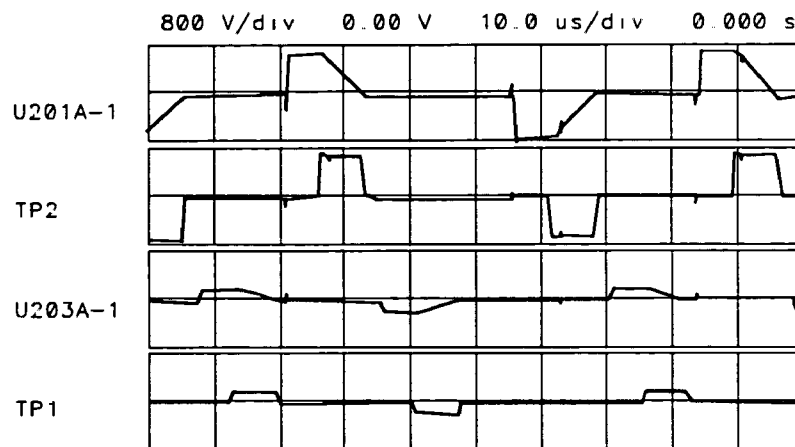

Figure 10-8. Normal X/Y Line Generator Waveforms
13. Figure 10-8 illustrates the waveforms of properly working line generators. Whenever there is a pulse on TP1 or TP2, the appropriate integrator (U201B or U203B) generates a ramp (the output vector) which feeds back to U201A (U203A) and shows on its output.